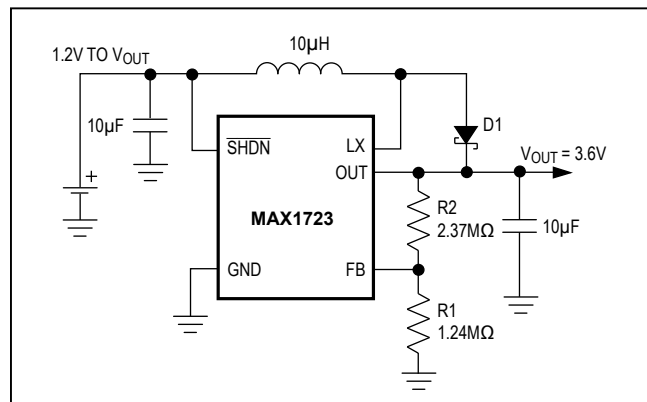
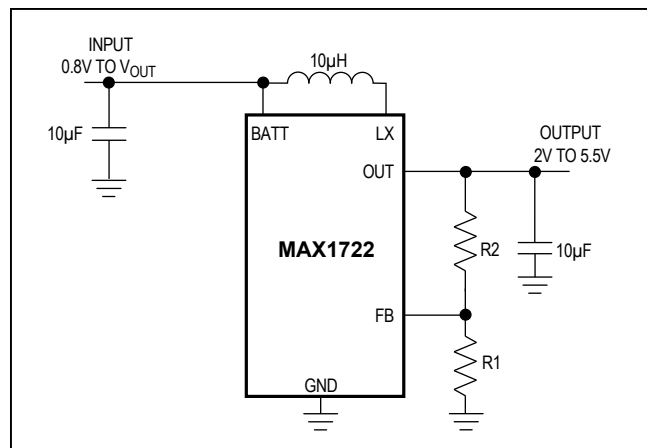
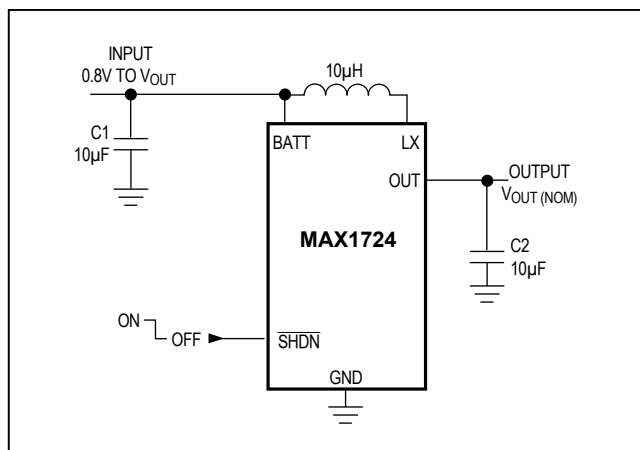

Figure 3. MAX1723 Single-Cell Operation
Figure 7. Adjustable Output Circuit
Figure 8. MAX1724 Standard Application Circuit
**Note 2:** Guaranteed with the addition of a Schottky MBR0520L external diode between LX and OUT when using the MAX1723 with only one cell, and assumes a 0.3V voltage drop across the Schottky diode (see Figure 3).
(Figure 3 (MAX1723), Figure 7 (MAX1722), Figure 8 (MAX1724), VBATT = VIN = 1.5V, L = 10 $\mu$ H, CIN = 10 $\mu$ F, COUT = 10 $\mu$ F, TA = +25°C, unless otherwise noted.)
(Figure 3 (MAX1723), Figure 7 (MAX1722), Figure 8 (MAX1724),  $V_{BATT} = V_{IN} = 1.5V$ ,  $L = 10\mu H$ ,  $C_{IN} = 10\mu F$ ,  $C_{OUT} = 10\mu F$ ,  $T_A = +25^\circ C$ , unless otherwise noted.)
lacks a BATT pin; therefore, this circuit is powered through the OUT pin. Adding a Schottky diode in parallel with the P-channel synchronous rectifier allows for startup voltages as low as 1.2V for the MAX1723 (Figure 3). The external Schottky diode is not needed for input voltages greater than 1.8V. Once started, the output maintains the load as the battery voltage decreases below the startup voltage.
The output voltage can be adjusted from 2V to 5.5V using external resistors R1 and R2 (Figure 7). Since FB leakage is 20nA (max), select feedback resistor R1 in the 100kΩ to 1MΩ range. Calculate R2 as follows: